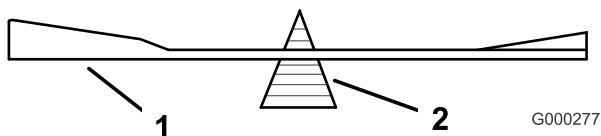
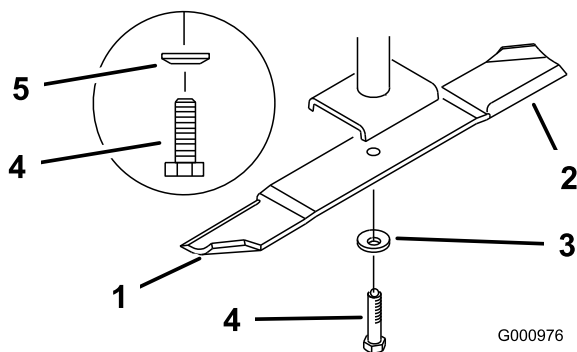

Figure 88
Figure 89
2. Remove the blade bolt, spring disk and blade from the spindle shaft (Figure 89).
2. Check the balance of the blade by putting it on a blade balancer (Figure 88). If the blade stays in a horizontal position, the blade is balanced and can be used. If the blade is not balanced, file some metal off the end of the sail area only (Figure 89). Repeat this procedure until the blade is balanced.
1. Install the blade onto the spindle shaft (Figure 89).
2. Install the spring disk and blade bolt. The spring disk cone must be installed toward the bolt head (Figure 89).